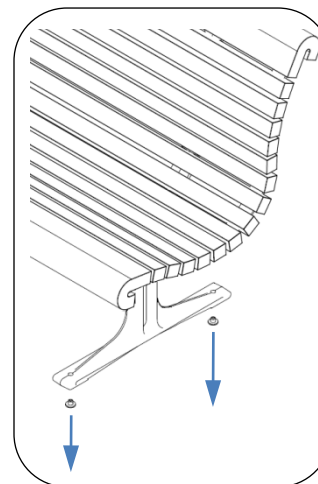

Fig. 1.1
1. Tip bench onto protective material and remove glides, see Fig. 1.1.